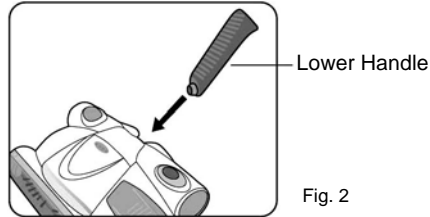

Fig. 2
- Insert the lower handle - small end - into the sweeper power head. Push until firmly in place. (Fig. 2)